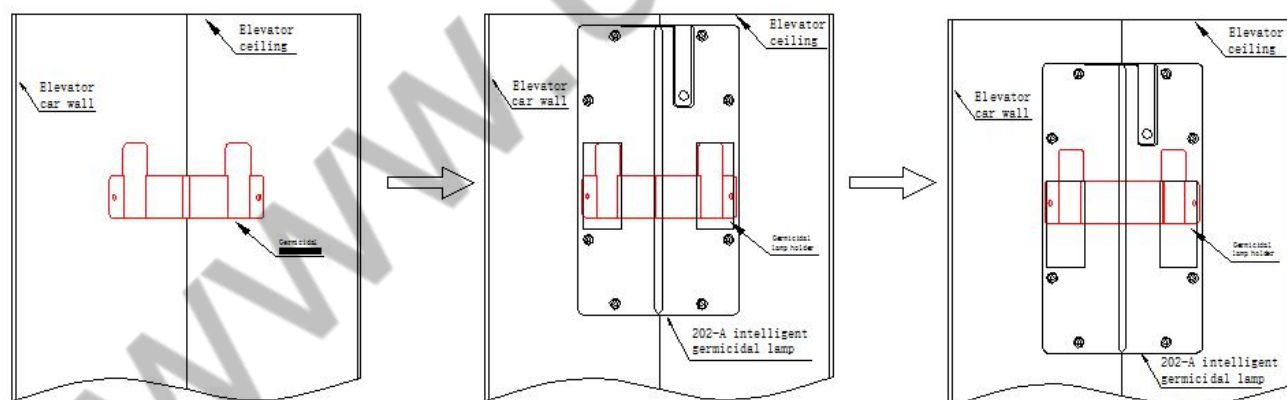

figure 9
c. GERMICIDAL lamp is mounted by means of a pendant, Upon completion of the above installation steps, The pendant is fixed by a special fixing screw assembly, and the power cord is drawn out, Insert the sterilizing lamp into the pendant, Put it through Power supply Installation complete (figure 9).